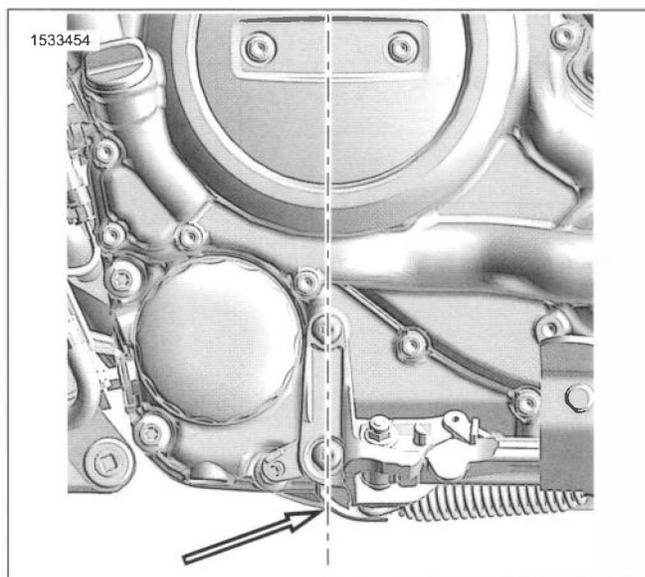

Figure 2-1. Crankshaft Centerline
- See Figure 2-1. When lifting motorcycle from underneath, always lift directly below crankshaft centerline with wood between motorcycle and lift.